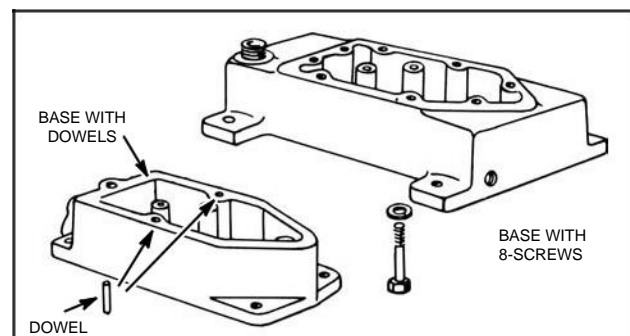

Fig. 569 – BASES
2. Lay crankcase on its side. Lift base and put two (2) mounting screws, with lockwashers through the mounting holes. Hang base gasket from these screws. Place base against crankcase and turn screws in a few turns. Start the rest of the mounting screws, being sure to align the base gasket. Tighten securely, Fig. 569.